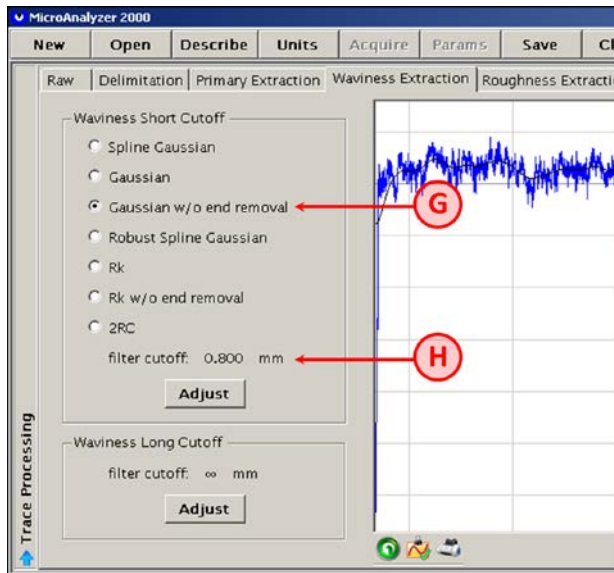

Figure 4 - Waviness Extraction Tab Settings
- 4.5. Confirm the following settings on the *Waviness Extraction* tab (Figure 4):
- 7.4. Confirm the following settings on the *Waviness Extraction* tab (Figure 4):